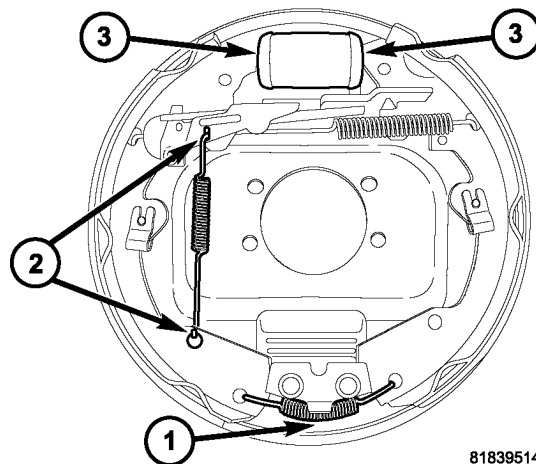

Fig. 4 COMPLETE BRAKE ASSEMBLY
16. Apply a small amount of the brake grease, p/n J8126688, on the wheel cylinder piston ends (Fig. 4).
19. Install the new brake shoe hold down springs, hold down pins, lower return spring, lever pawl, and lever pawl spring provided in the kit (Fig. 4).